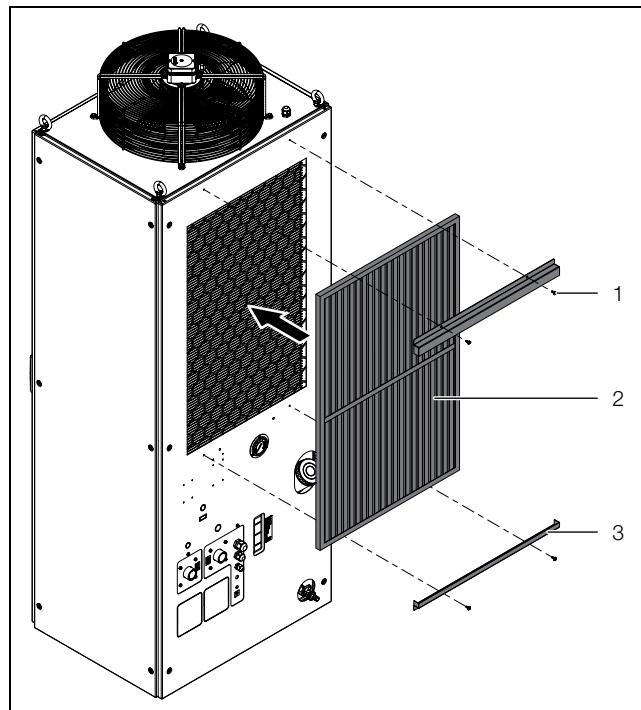

Fig. 11: Installing the metal filters
- Mount the two holders (fig. 11, item 3) with the mounting screws (fig. 11, item 1) on the back of the chiller.